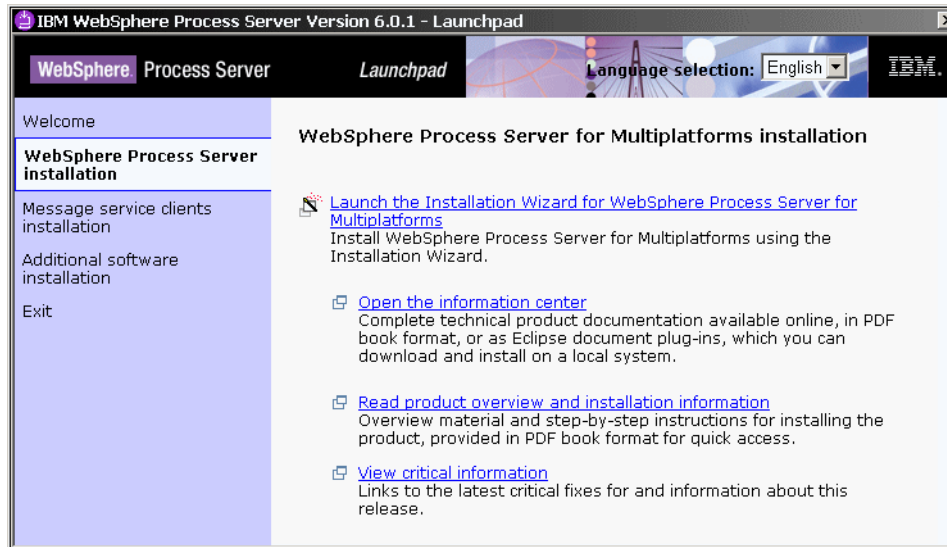

Figure A-9 WebSphere Process Server: Launch installation
- ▶ Select *Launch the Installation Wizard for WebSphere Process Server for Multiplatforms* (Figure A-9).